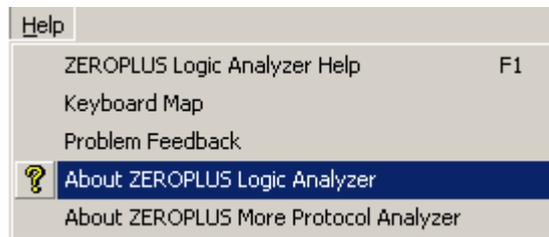

Fig. 6-3 – About ZEROPLUS Logic Analyzer
- A:** Click **Help** from the Menu Bar (See Fig 6-3), and then select **About ZEROPLUS Logic Analyzer**(See Figs 6-3 and 6-4).